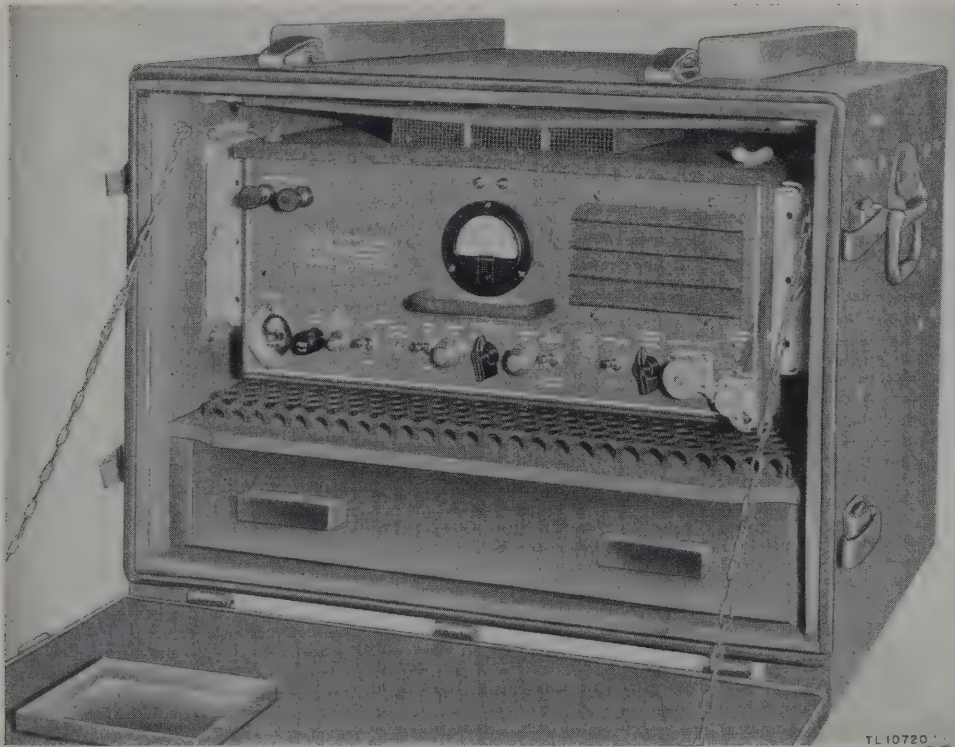

Figure 12. Radio Receiver R-19/TRC-1 installed in Case CY-18(*)/TRC-1.
a. Radio Receiver R-19(*)/TRC-1 (figs. 12 and 36) is a single-channel crystal-controlled, double-conversion superheterodyne receiver de-
- (1) Case CY-18(*)/TRC-1 is a waterproof plywood carrying case designed to house Radio Receiver R-19(*)/TRC-1 when in transit or in field use (fig. 12). It is identical in external size and appearance to Cases CY-15(*)/TRA-1 and CY-17(*)/TRC-1 used for Amplifier AM-8(*)/TRA-1 and Radio Transmitter T-14(*)/TRC-1, respectively. This case contains a shock-mounting rack into which the receiver slides and locks. When the case is closed by means of the snap